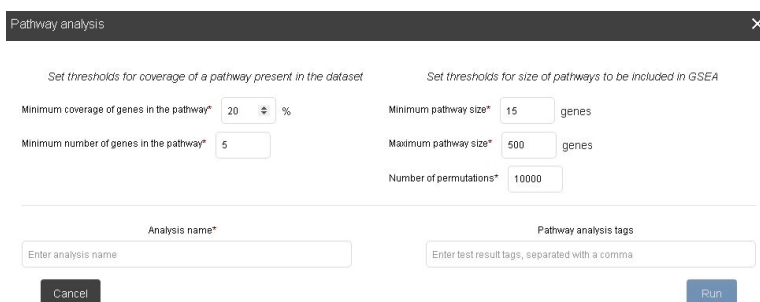

Figure 40: Pathway Analysis window
2. In the Pathway analysis window (see Figure 40), set thresholds based on suitable parameters for your study and click the **Run** button. This enters the fold change values for each target from the statistical test results into a gene set enrichment analysis (GSEA).